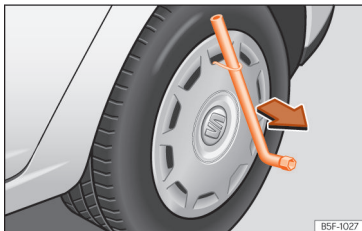

Fig. 33 Remove the wheel cover.
- Insert the box spanner through the hook, rest it on the tyre and remove the wheel trim »» Fig. 33.